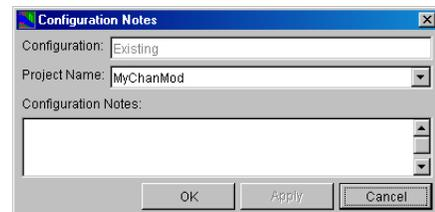

Figure 6.19 Configuration Notes - Channel Modification
2. From the shortcut menu, select **Configuration Notes**. This command opens a dialog box (Figure 6.19) for entering text information about a project that is specific to the configuration.